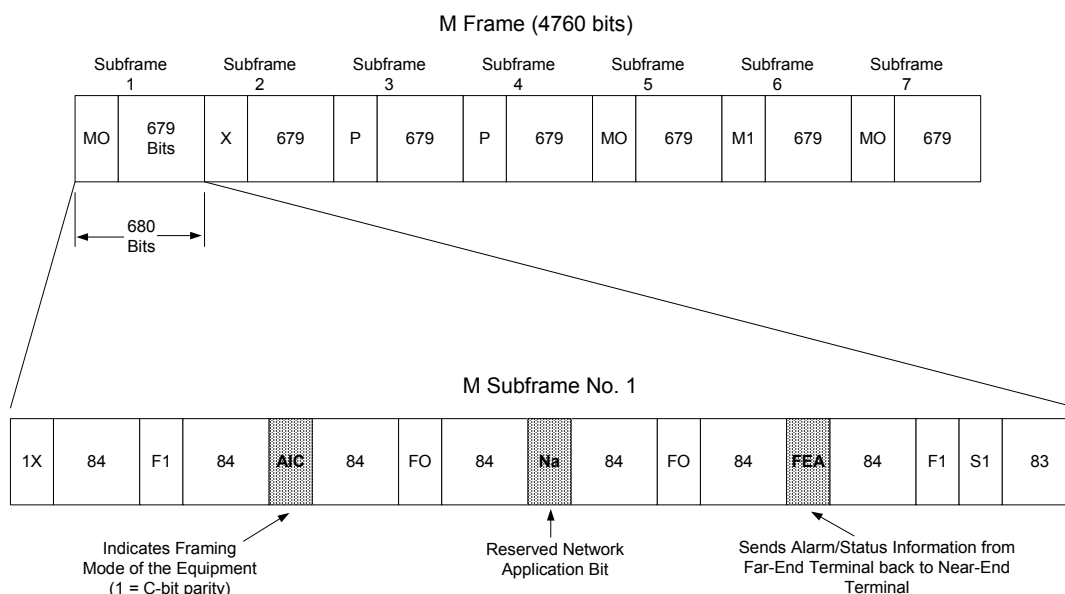

Figure 2-3 Subframe 1 C-bits
The first C-bit in M-subframe 1, the AIC bit, indicates whether the far-end equipment is set for C-bit parity framing (1), or M23 framing (random 1s and 0s). See Figure 2-3.
This bit is always a one (1). See Figure 2-3.